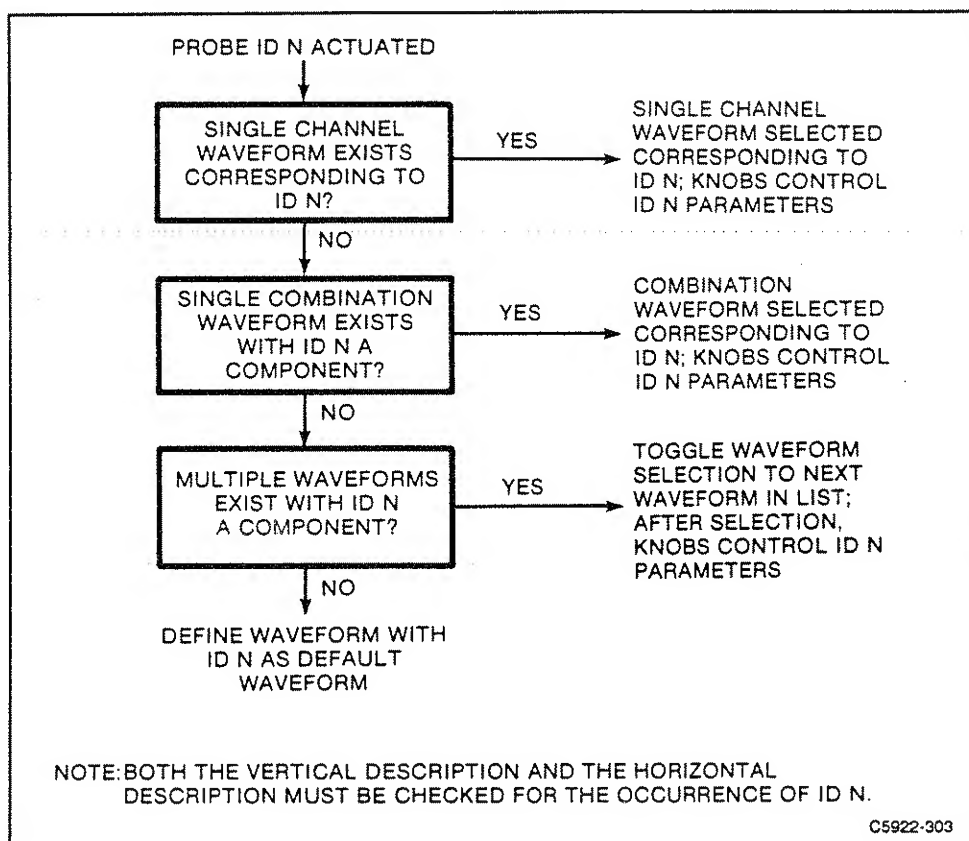

Figure 3-4 Sequence of decisions used to select a new waveform in response to probe ID button.
2. If the **Probe ID Function** (in the **Probes** pop-up menu of the **Utility** major menu) is set to **Waveform Select/New Wfm**, a waveform will be selected. Figure 3-4 shows the sequence of decisions used to select a new waveform.
3. If the **Probe ID Function** is set to **Wfm Select/New Wfm & AutoSet**, then the decisions shown in Figure 3-4 will be made, and the resulting selected waveform is autoset.